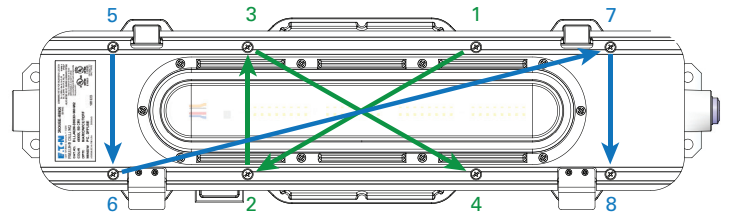

Figure 1. Driver Housing Screws
4. Loosen the eight (8) #10-32 x .75" stainless steel cover screws (see Figure 1) until screws are free from driver housing. Screws are a captive type and should not be fully removed from the light engine fitting assembly.
10. With the replacement surge module installed and the wiring secured, rotate the light engine sub-assembly back on the driver housing and secure the eight (8) mounting screws. Tighten using the pattern indicated in Figure 1. Torque mounting screws to 23 in-lb [2.6 N-m].